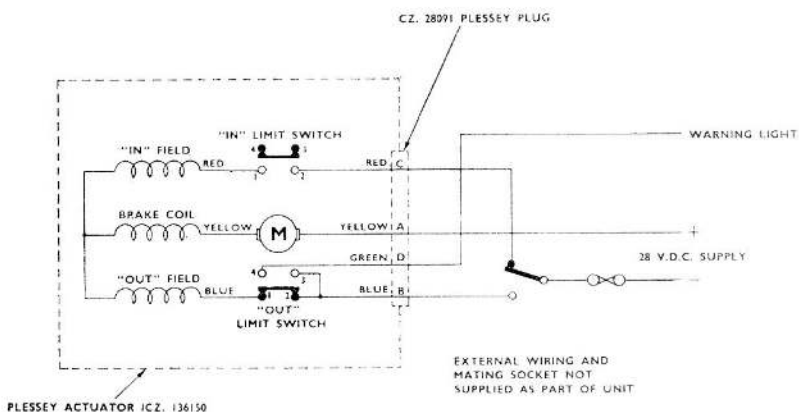

Fig. 3. Circuit diagram
5. Fig. 3 shows the schematic diagram for the wiring of this actuator; it includes the addition to the circuitry typified in the main chapter. Two single pole, change-over type micro-switches and a four-pole plug (Ref. No. 5X/6006), are used. The circuit is designed to provide normal remote control of the actuator and, in addition, to enable an external warning light to be connected into the circuit. The connections are so made that the light should automatically operate when the plunger has reached the pre-set limit of travel in the "extend" position.